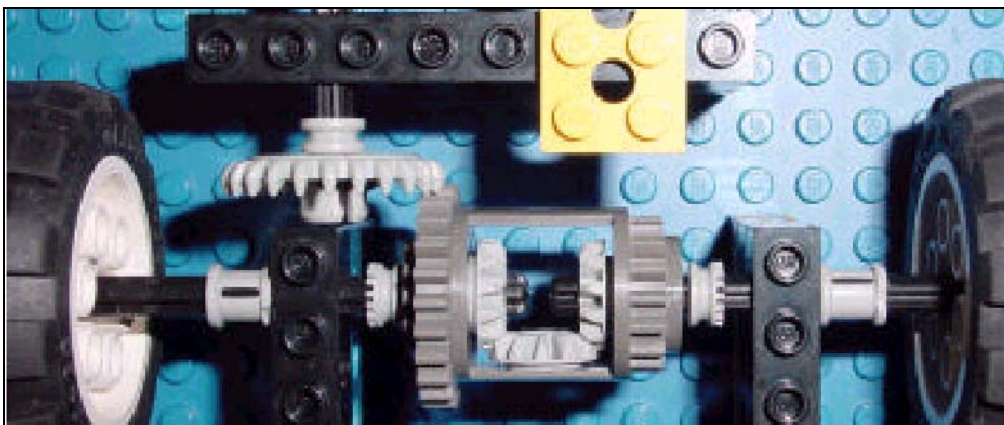

FIGURE 1.6 Lego's version of a differential
**Differentials** are most commonly used in automobiles, (see figures 1.6 and 1.7). A differential allows two wheels on the same axle to travel at different speeds. If there is equal force on both tires, the tires will travel at the same speed. If there is an unbalanced force between the wheels, then one wheel can slip while the other one is being driven. This is very useful in going around corners, where the outside wheel must travel faster than the inside wheel. One disadvantage is that on a slippery road, the differential allows one tire to spin while the other does nothing.